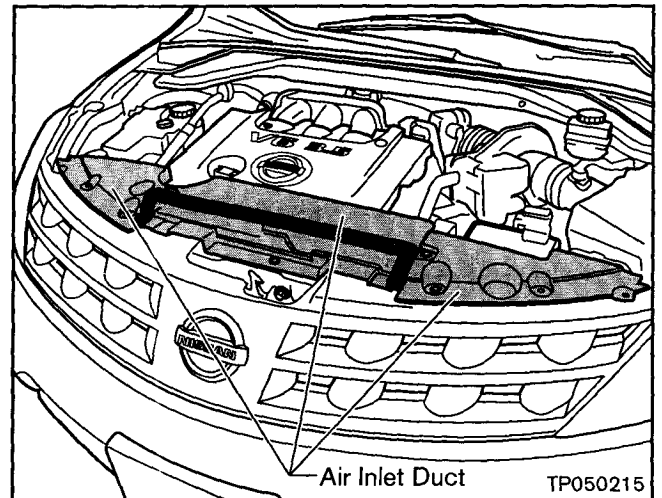

Figure 1
2. Remove the Air Inlet Duct (see Figure 1).